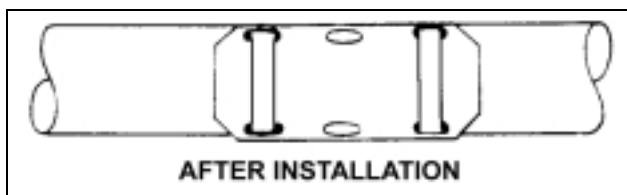

FIGURE 11-31. Completed installation.
(6) Keeping tool against head of tie-down strap, ensure gripper engages tie-down strap, and squeeze trigger of installation tool until strap installation is completed as shown in figure 11-31.